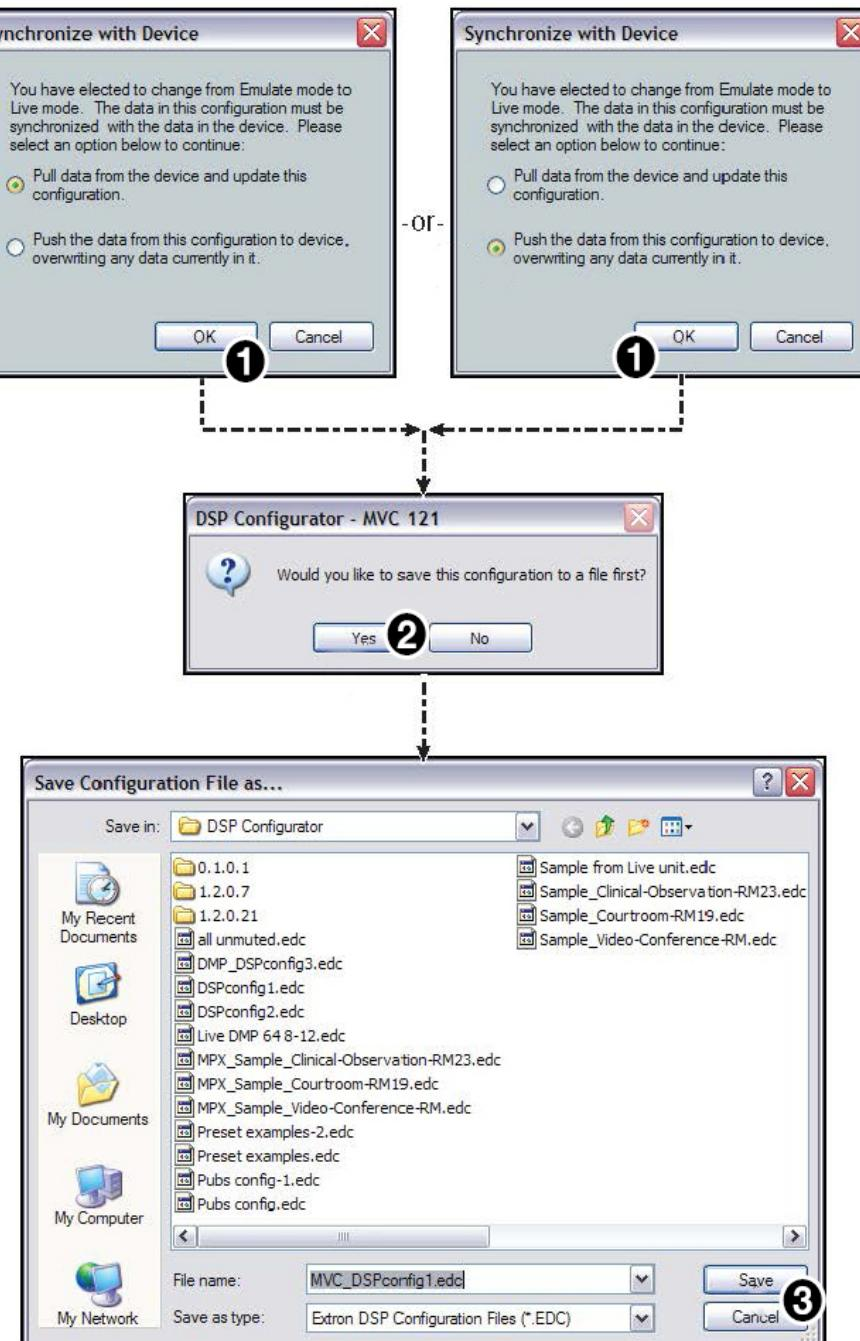

Figure 50. Selecting Live Mode
6. Click **OK** (see figure 50, ①). The program prompts to save the current configuration.
8. Click **OK** (see **figure 50, ③**).